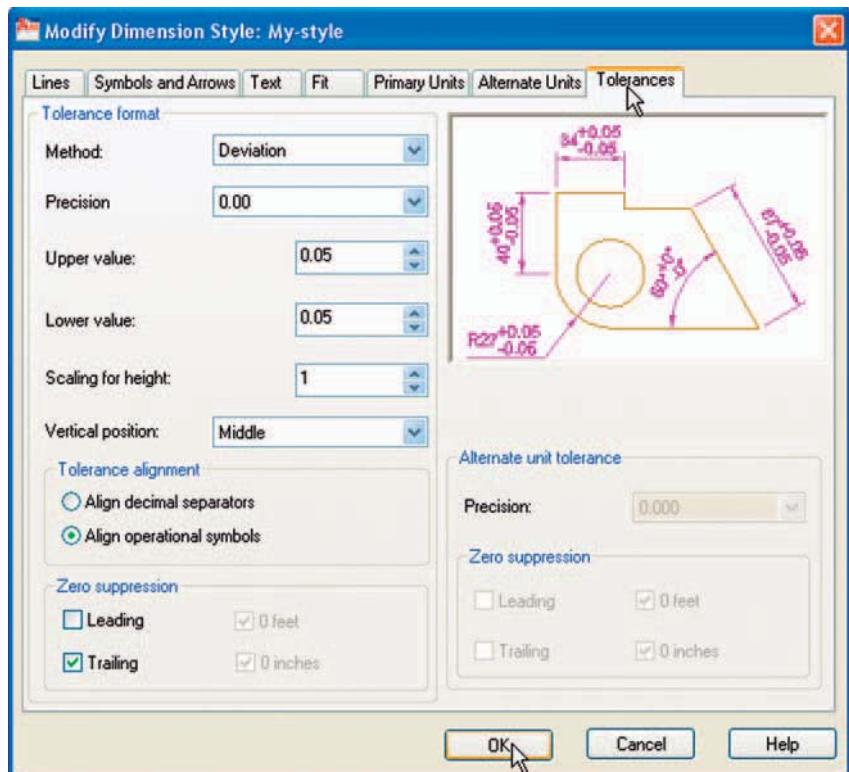
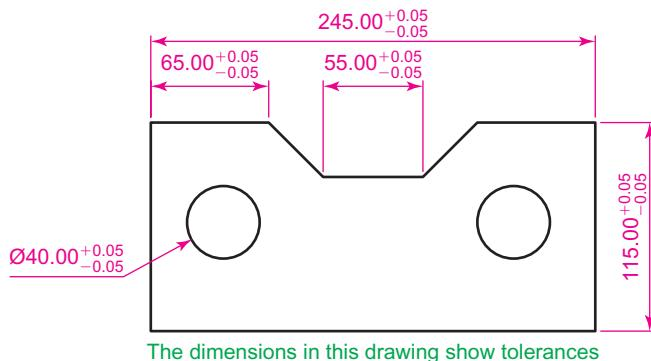

Fig. 6.17 The **Tolerances** sub-dialog of the **Modify Dimension Style** dialog
Fig. 6.19 Example – tolerances
2. Click the **Modify...** button of the dialog, followed by a *left-click* on the **Primary Units** tab and in the resulting sub-dialog make settings as shown in Fig. 6.17. Note the changes in the preview box of the dialog.
Example – tolerances (Fig. 6.19)
3. Dimension the drawing using either tools from the **Dimension** toolbar or by *entering* abbreviations at the command line. Because tolerances have been set in the **Dimension Style Manager** dialog (Fig. 6.17), the toleranced dimensions will automatically be added to the drawing (Fig. 6.19).
1. Open the drawing from the example on tolerances – Fig. 6.19.